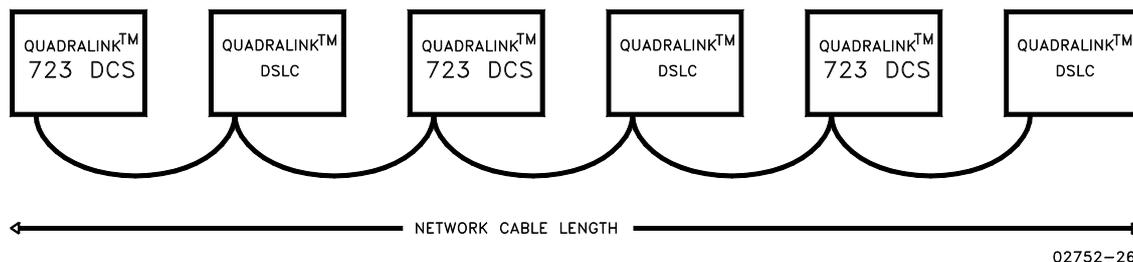
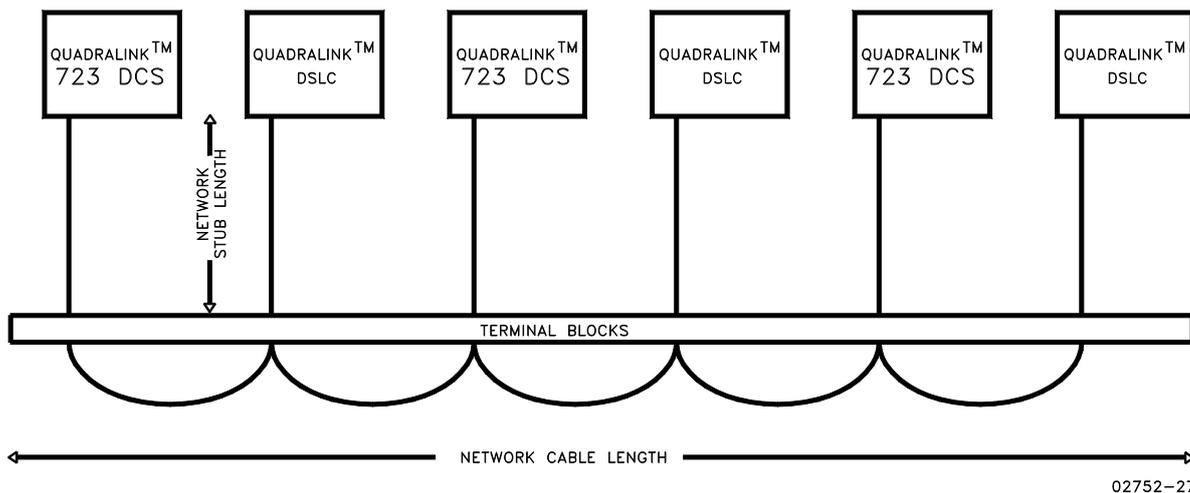

Figure 6-1. Direct Wired Network
Figure 6-2. Network Wired Via Stubs
The DSLC communicates with the 723 through shielded twisted pair wiring. The specifications for the system require that listed level V type cable be used. For systems where more than one 723/DSLc pair are installed, the network may be wired directly from unit to unit, as shown in Figure 6-1, or each unit may be connected to the network via stubs as in Figure 6-2. The network must be terminated at both ends; each end is terminated by placing a jumper between terminals 24 & 25 (723), and/or 41 & 42 (DSLc). There is no polarity associated with the network wiring.